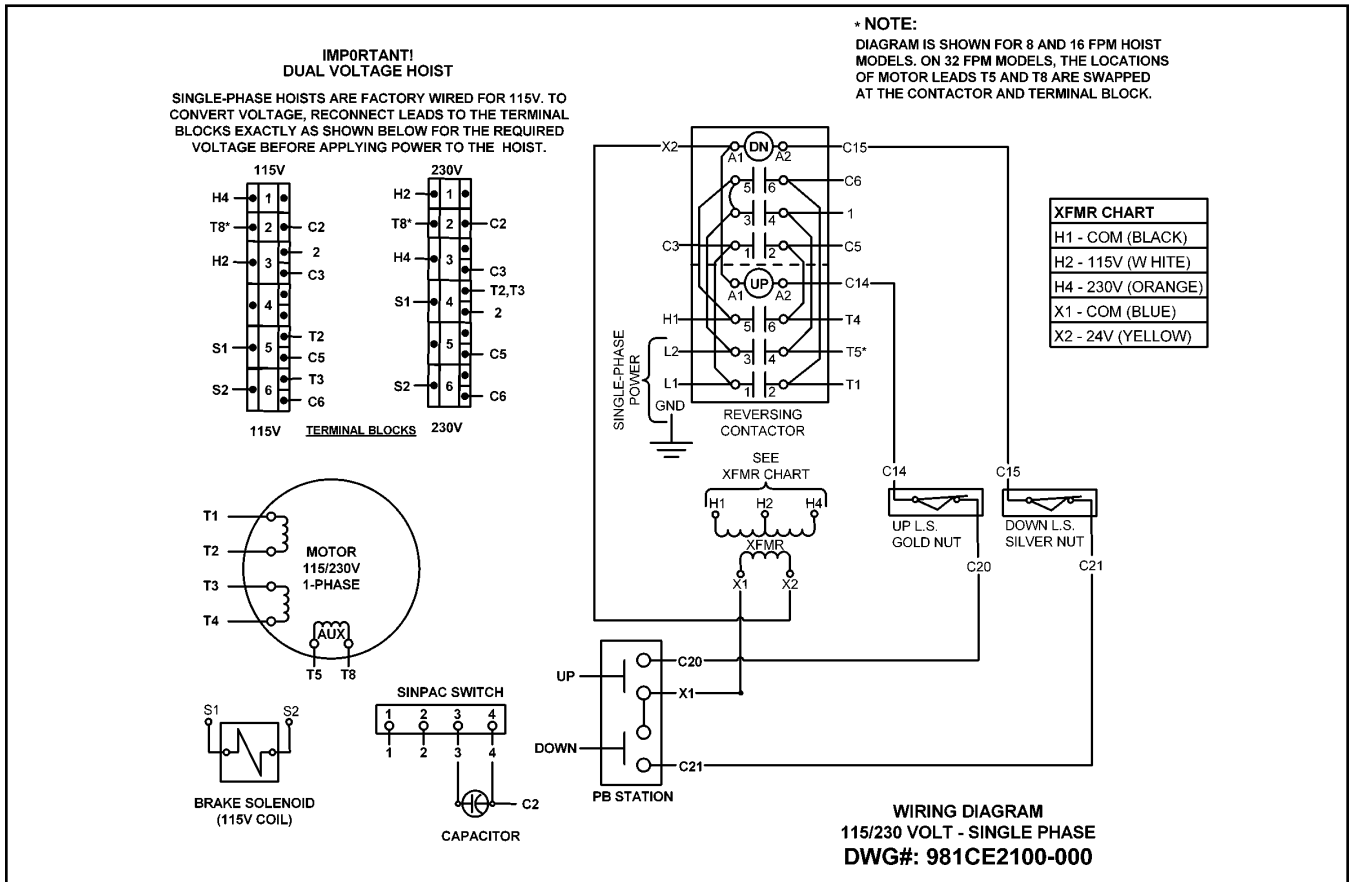

Figure 9A — Wiring Diagram for 115/230V - 1 Phase Models
The reversing contactor can be slid off the rail, but it must be snapped on. Where the contactor fits the rail, one side has springs or pads that apply pressure against the edge of the rail. By pressing against that side at the base of the contactor, you can snap the part on or off using a rotating action. Note the numbers that label the terminals on the contactor and orient the part as shown in Figures 9A-9D. Single-phase contactors have a small jumper that is not present on the 3-phase (note the 3 and 5 terminals on the reversing contactor in Figure 9A).
6. Refer to Figures 18 and 19 for repairs on the pushbutton station. Also refer to the wiring diagram inside the electrical cover or Figures 9A, 9B, 9C and 9D for wiring instructions.
5. Install new or repaired motor according to the wiring diagram located inside the electrical cover or Figures 9A, 9B, 9C and 9D.